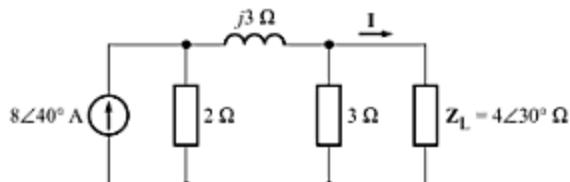

Fig. C-59
- C-90. Use current division twice to find \mathbf{I} for the circuit shown in Fig. C-59. [Ans. $1.41 \angle -19.5^\circ \text{ A}$]